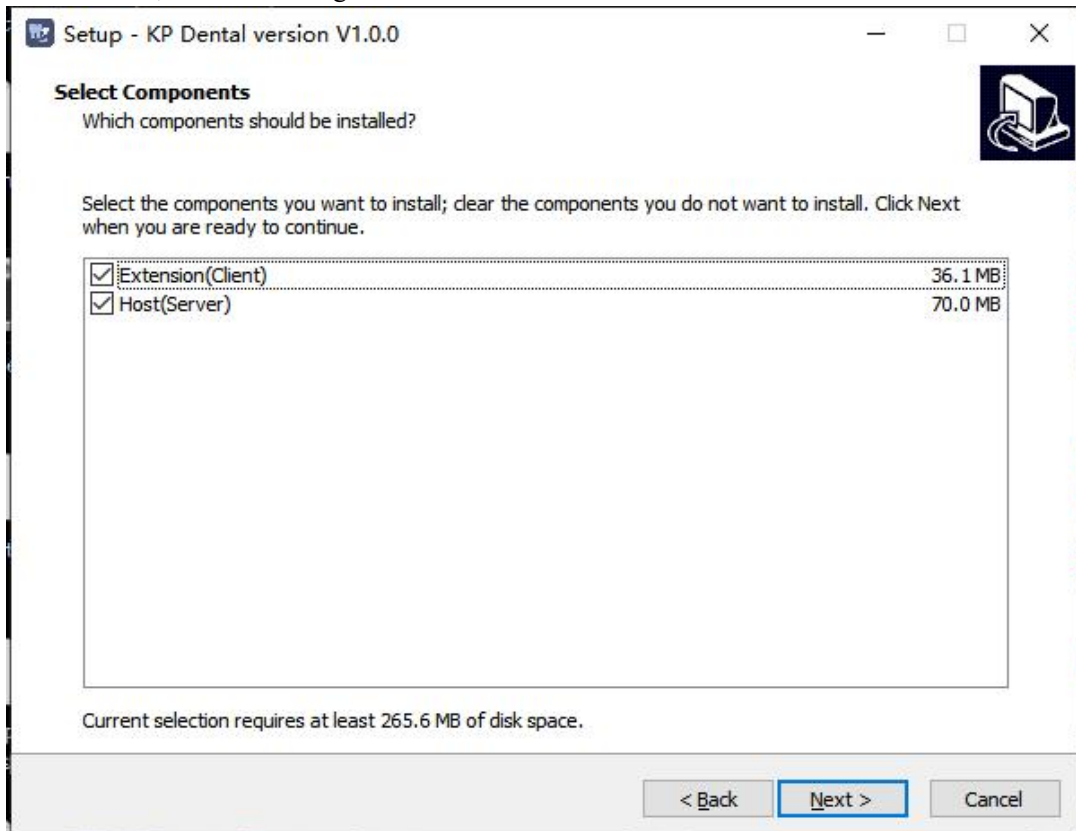

Figure 5
3.1.5 Select components. The user selects the corresponding component as needed, and then click the "Next" button, as shown in Figure 5: